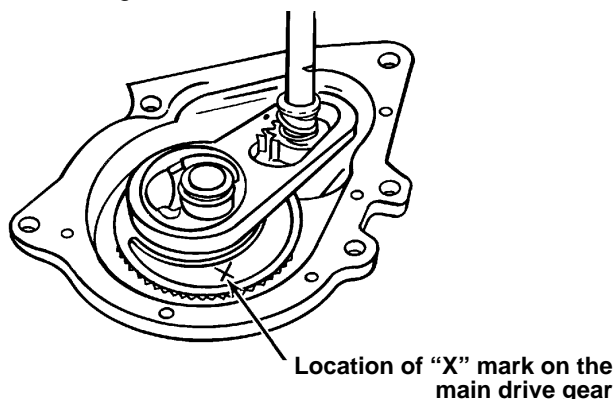

Figure 1
1. Examine the main drive gear to see if an "X" is marked into it. See Figure 1.